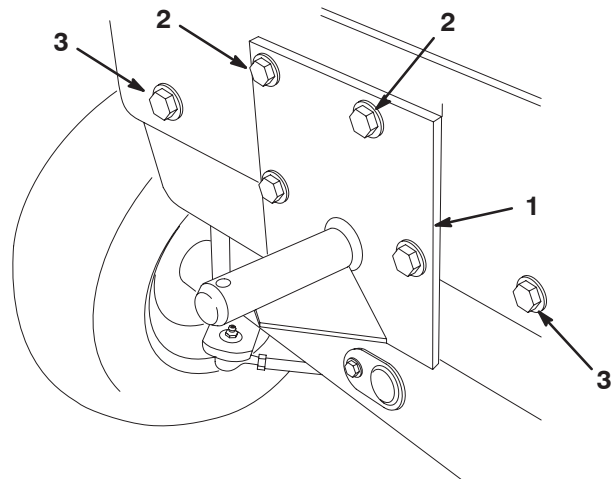
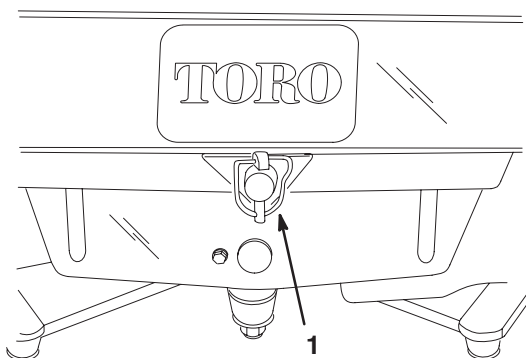

Figure 12
Figure 13
4. Position the rear hopper bracket on the rear frame, as shown in figure 12, while aligning the (2) bottom mounting holes with the holes in the frame. Using the bracket as a guide, locate, mark and drill the remaining (2) 9/16” dia. holes in the rear frame.
5. On models 30343 and 30344 with serial numbers 260000001 and up, install (2) 1/2–13 x 1–1/4” capscrews (included in kit) and (2) previously removed 1/2” lockwashers and 1/2” flatwashers in the outer frame holes to secure the inside weight (Fig. 12).
6. On traction units with serial numbers 250000001 thru 259999999, mount the top of the rear hopper bracket to the frame using (2) 1/2–13 x 1–1/4” lg. capscrews,
mounting strap and (2) 1/2 – 13 locknuts (Fig. 12). The strap is to be positioned between the frame and the bracket.
7. On traction units with serial numbers 260000001 and up, mount the top of the rear hopper bracket to the frame using (2) 1/2–13 x 3” lg. capscrews, mounting strap, (2) 1/2” flatwashers and (2) 1/2 – 13 locknuts (Fig. 12). The strap is to be positioned between the frame and the bracket.
8. On traction units with serial numbers 250000001 thru 259999999, mount the bottom of the bracket to the frame with (2) 1/2–13 x 1–1/2” lg. capscrews, mounting strap, (2) 1/2 flatwashers and (2) 1/2–13 locknuts. The strap is to be positioned between the frame and the bracket.
9. On traction units with serial numbers 260000001 and up, mount the bottom of the bracket to the frame with (2) 1/2–13 x 1–1/2” lg. capscrews, mounting strap, (2) 1/2 flatwashers and (2) 1/2” lockwashers. The strap is to be positioned between the frame and the bracket.
11. Secure the rear of the frame to the bracket pin with the disconnect pin (Fig. 13).